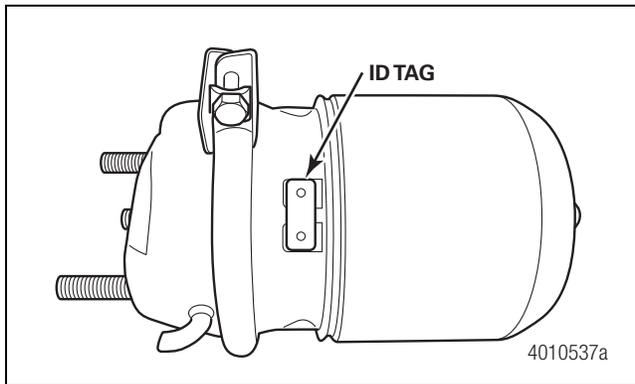

Figure 2
2. Locate the identification tag on the brake chamber. Figure 2.